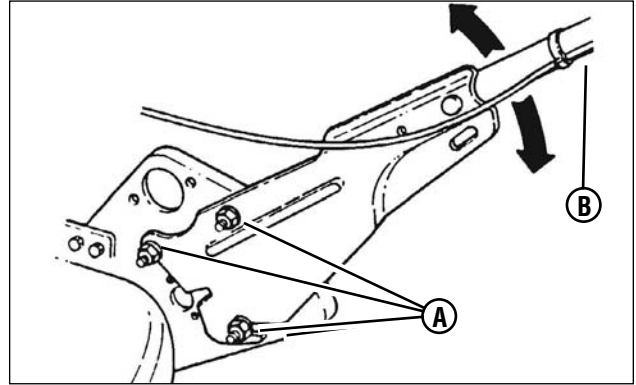

Figure 6: Adjusting the handle height
1. Loosen the lower nuts **(A, Figure 6)** on each lower handle.